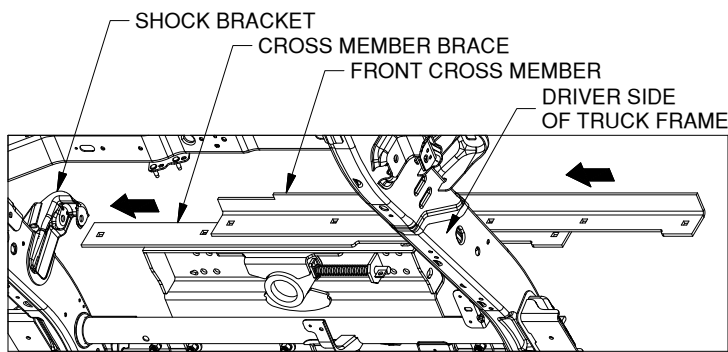
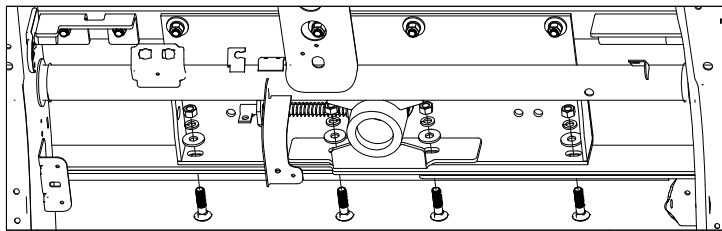

Figure B6: View looking up at center section. (Fuel tank not shown)
Figure B7: View looking up at center section.
5. **Install front cross member and brace.** Install the cross member brace between the frame and truck bed from the driver side. The cut-out area should be facing down and toward the driver side. This will allow clearance for the fuel tank on some models. Slide it back toward the center section as shown in Figure B6. Next install the front cross member. Slide the end with the short notch between the frame and truck bed from the driver side. The notch should be facing up and toward the front of the truck. This will allow clearance around the shock bracket on the passenger side when fully installed, as shown in Figure B6. With the cross member and brace spanning the frame slide both back against the center section. Install a 1/2" x 2" carriage bolt through the cross member and brace on the passenger side, just behind the shock bracket. This will be used later. While pushing up on the center section (so the socket top fits through the four inch hole in the truck bed) align the holes and install the carriage bolts through the cross member, brace, and then the center section. Place a flat washer, lock washer, and nut on each bolt, see Figure B7. Do not fully tighten at this time.